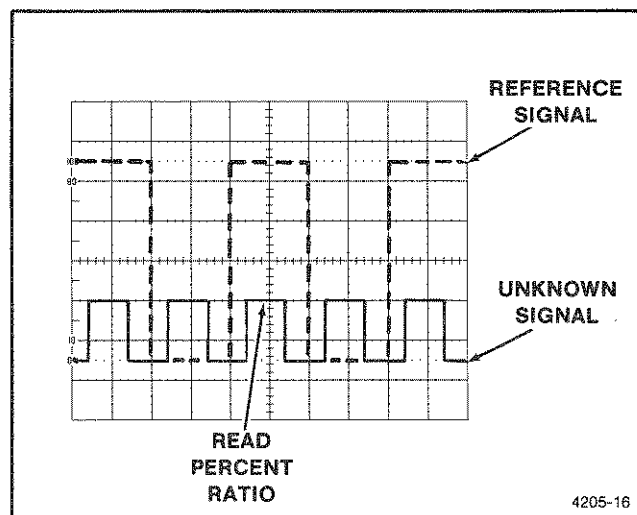

Fig. 4-4. Voltage ratios.
5. Horizontally position the waveform so that its top most features cross the center vertical graticule line (see Figure 4-4).